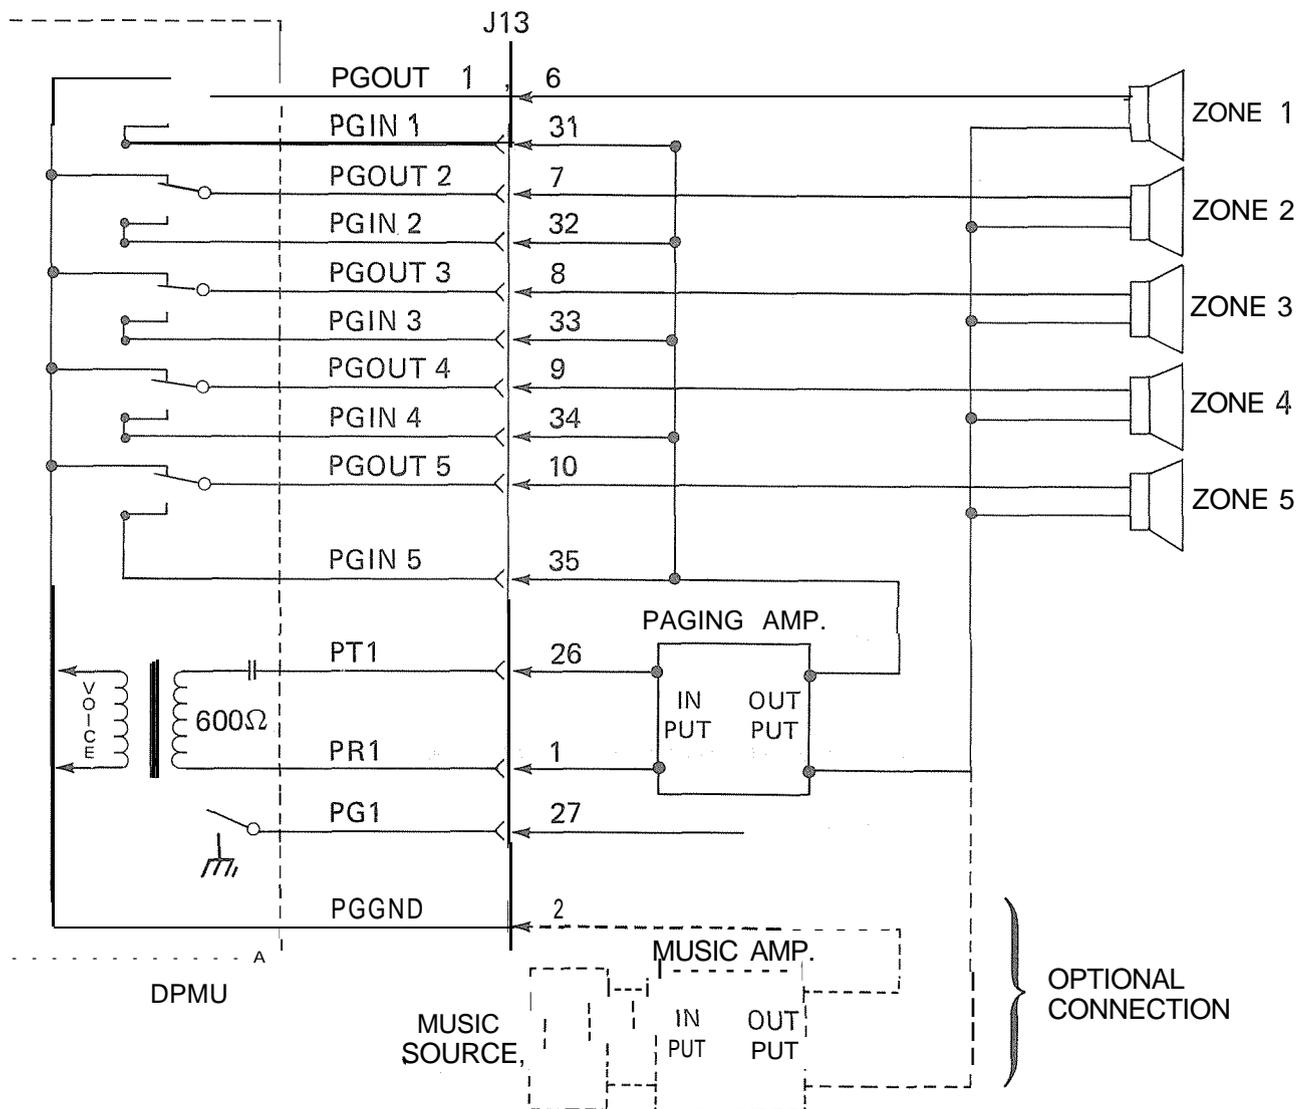

FIGURE 40—PAGING WITH ONE AMPLIFIER
- 1) If the music is supplied from a separate amplifier (as in Figures 40 & 41), it can be connected between the speaker common line and the PG GND input to the DPMU (J13 pin #2). Through the K1 ~ K5 relay "break" contacts, the music will be connected to all speaker zones when no page is in progress. When a page access code is dialed, the proper relay operates, the music is disconnected from that zone, and the page amplifier output is connected.